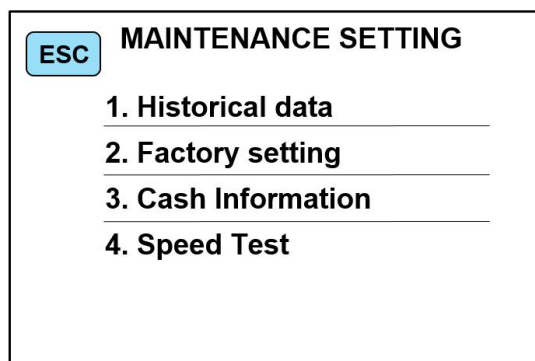
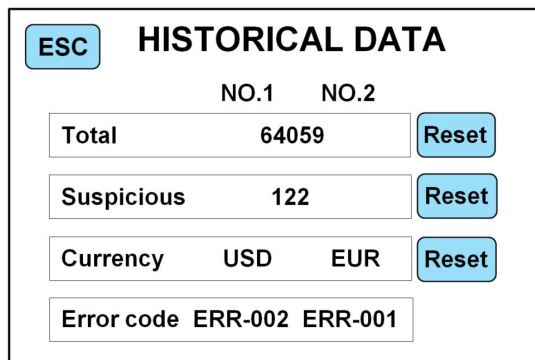

Figure 50
Figure 51
then press the “” key again for two consecutive times to enter debugging mode, as shown in Figure 50 below:
2) press “**1.Historical data**” as shown in figure 50 to check historical data as shown in figure 51: